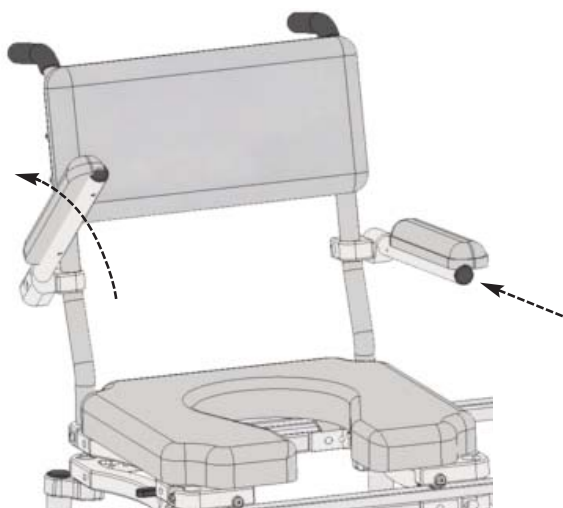

Figure 20
**D Cantilever Arms:** The cantilever arms can be adjusted to the desired height by completing the following steps: Loosen the socket head cap screws on the arm clamps, raise/lower the arms accordingly, then re-tighten the socket head cap screws (Refer to Figure 19). For safety purposes, the cantilever arms lock in the down position. To switch the arms to the up position, simply push the arms toward the back of the chair (releasing the locking mechanism) and lift up (Refer to Figure 20).